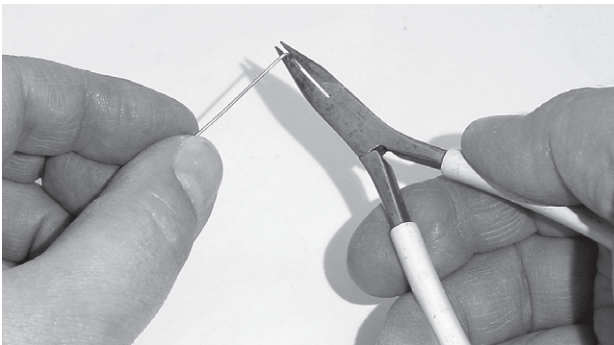

FIGURE 5.30 Bend one end of the link, using long-nosed pliers.
- **BEND** one end of the link around the nose of a pair of long-nosed pliers — see Figure 5.30. The bend should be at 90°, and there should be sufficient wire to go through the board and be soldered to a copper track